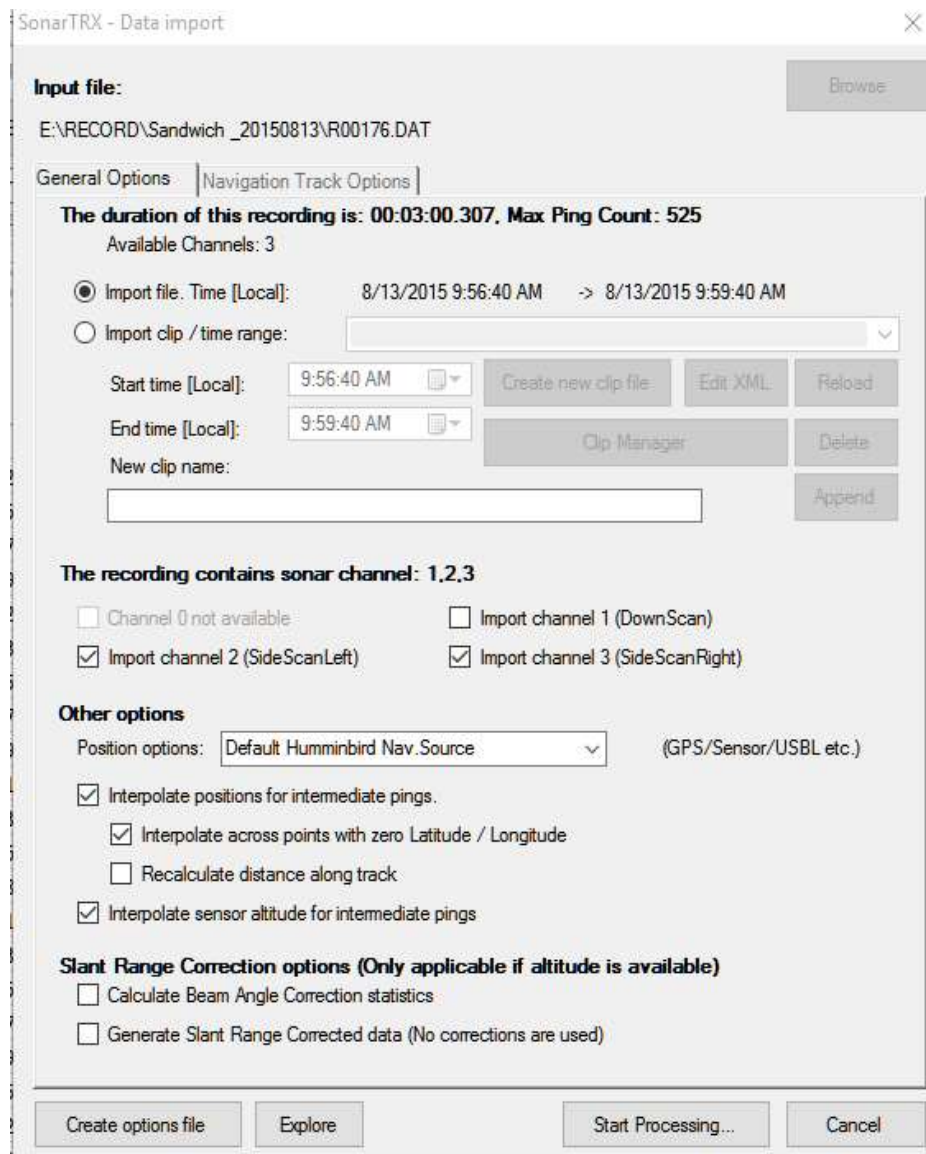

Figure 4-2. Data import selection for SonarTRX.
- Select General Options as identified in Figure 4-2.